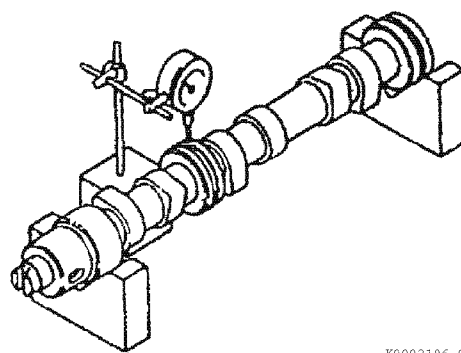

Figure 6-74
1. Use V-blocks and a dial indicator to check camshaft bend (**Figure 6-74**). Place the indicator on the center bearing journal.